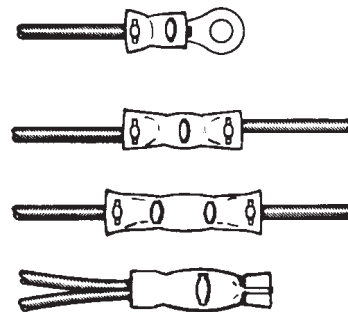

Figure 6
6. Crimped terminals/splices should appear as shown in Figure 6.